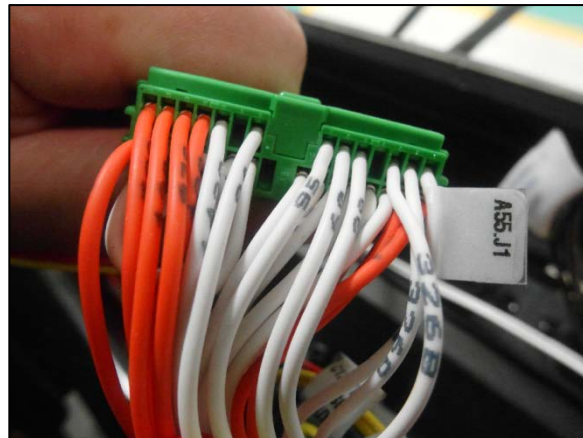

Fig.3
2. Unplug connector J1 from the A55 module. You should see a tag that identifies the connector (see figure 3).